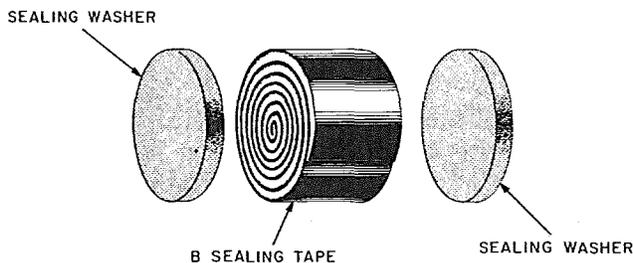
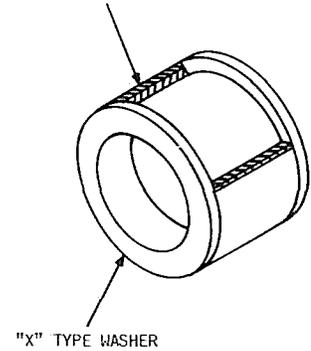

Fig. 17—B Sealing Tape Plug
Fig. 18—J-X and K-X Sealing Washer for Sealing Vacant Opening In Splice Case
3.26 An unused cavity in the splice case can be filled with a plug of B sealing tape with a solid sealing washer of the proper diameter placed at each end of the plug (Fig. 17) or with a J-X or K-X sealing washer as shown in Fig. 18.